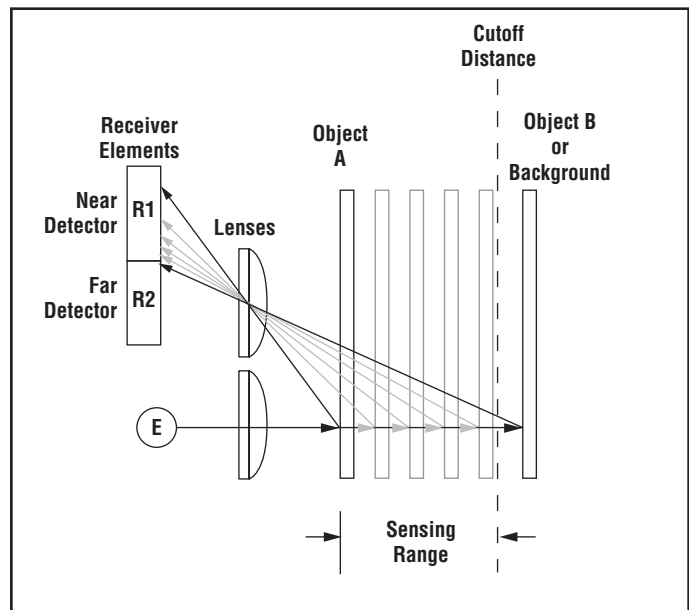

Figure 2. Adjustable field sensing concept
In operation, the Q60AF compares the reflections of its emitted light beam (E) from an object back to the sensor's two differently-aimed detectors R1 and R2 (see Figure 2). If the near detector (R1) light signal is stronger than the far detector (R2) light signal (see object A, closer than the cutoff distance), the sensor responds to the object. If the far detector (R2) light signal is stronger than the near detector (R1) light signal (see object B, object beyond the cutoff distance), the sensor ignores the object.